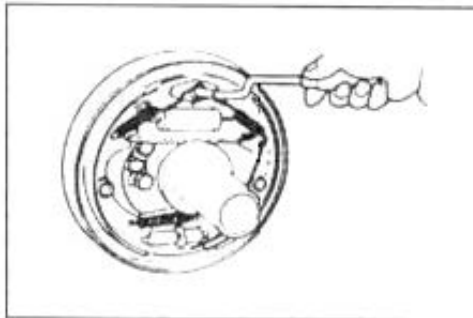

Fig 6-21
(8) Mount the guide plate of brake shoe onto the support pin, and then install the return spring of brake shoe (Fig 6-21)